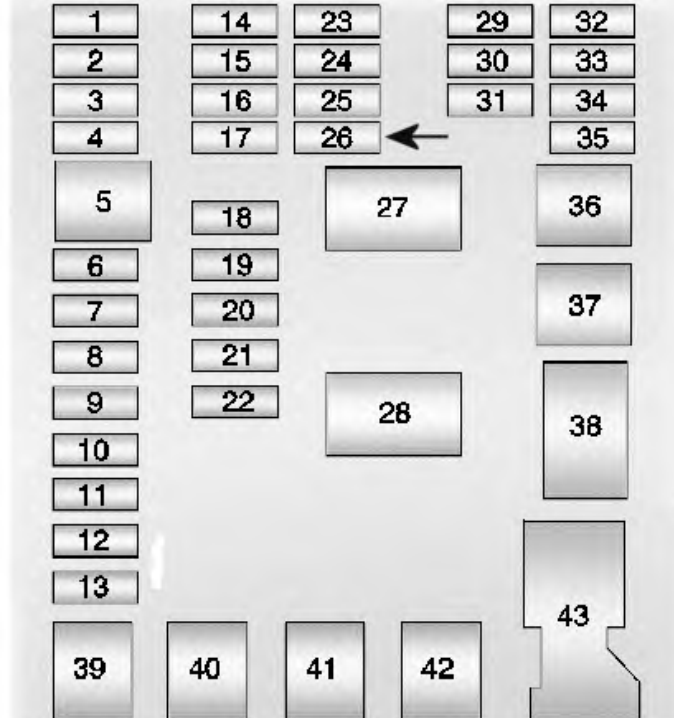

Fig. 6: Instrument Panel Fuses (Sonic).
- **2012-16 Sonic :** Fuse #F26 (F26DA) Under Dash (lower-left of dash - Fig. 6)